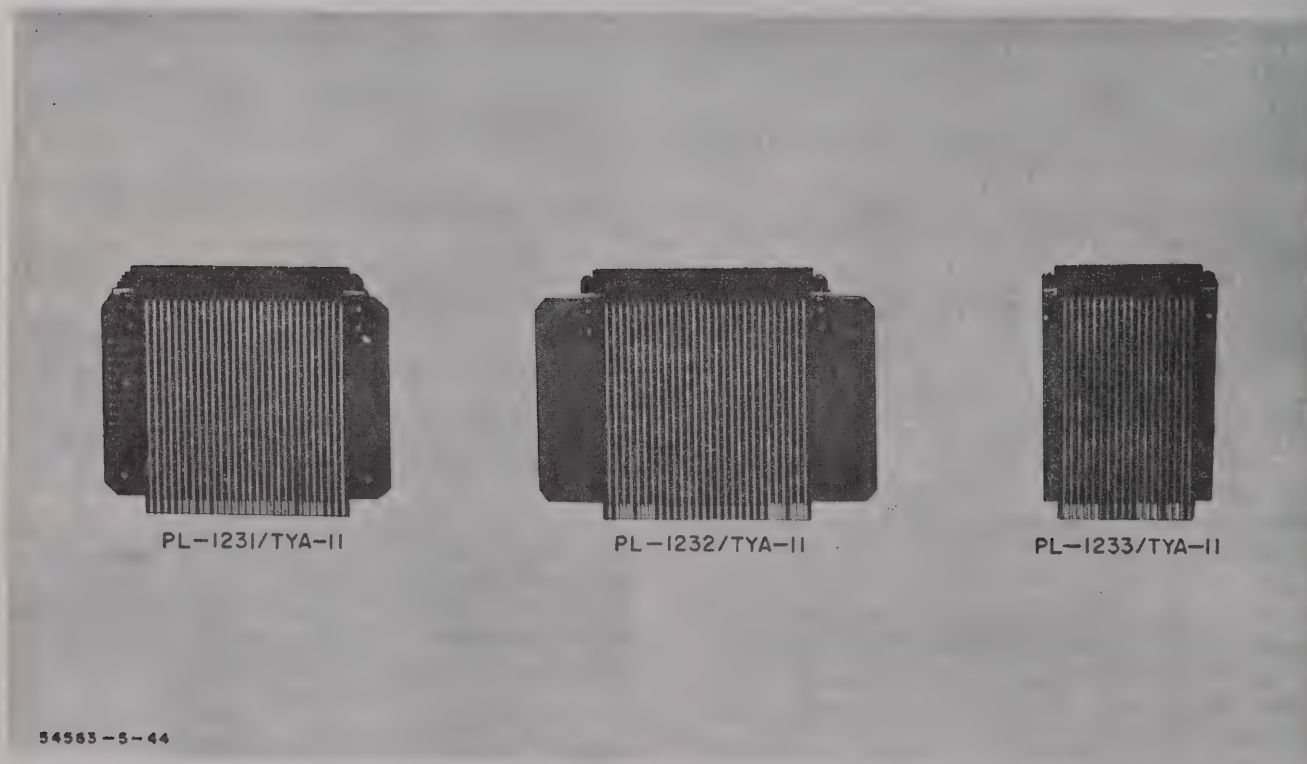

Figure 1-8. Communications Test Kit, MK-1104/TYA-11, Modulator Extenders
(3) Module Extenders. Communications Test Kit, MK-1104/TYA-11, contains three module extenders used to extend printed-wiring boards in Communications Central Group, AN/TYA-11, equipment. The extenders are described in the following paragraphs and shown in Figure 1-8.